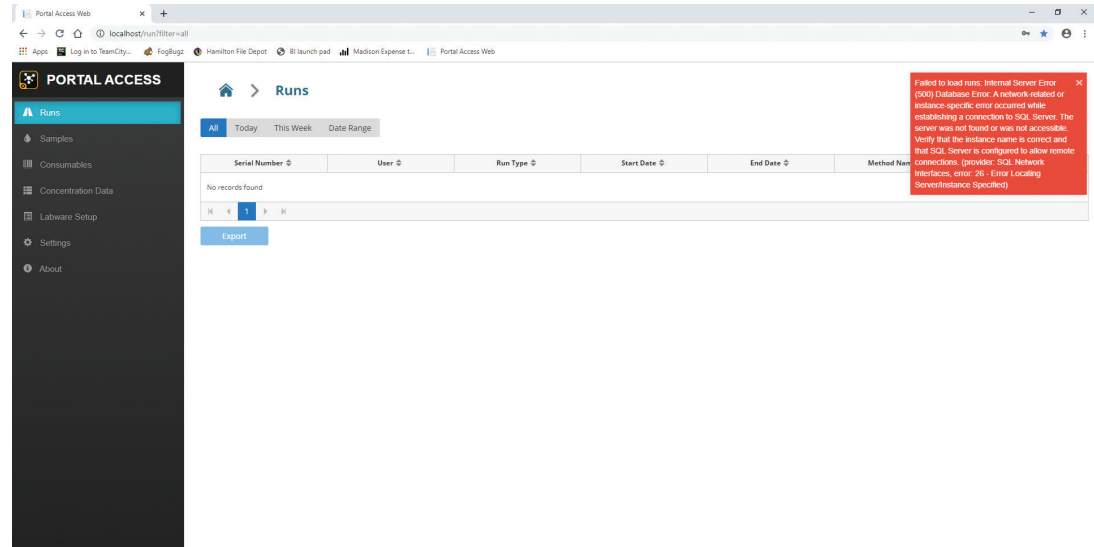

Figure 5. Portal Access ‘Runs’ screen. This is the screen that will be displayed when first connecting to Portal Access.
3. Upon successful connection to Portal Access you will see the ‘Runs’ screen (see Figure 5). An error will be displayed at this point as the settings for connection to the Portal software have not yet been entered.